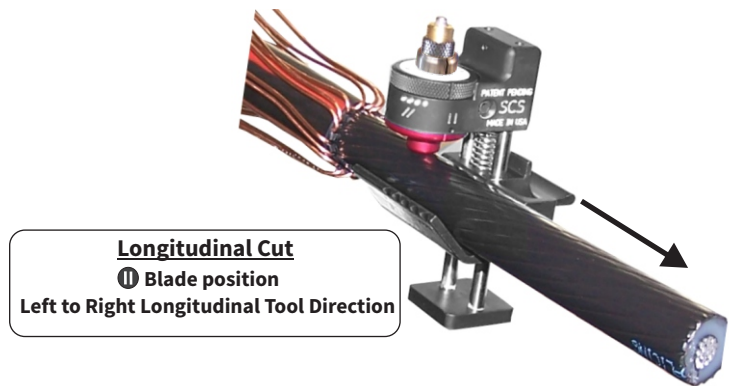

Fig.4
4. Longitudinal score cuts: (Fig.4) If preferred, the tool will allow for longitudinal score cuts as an option. After finishing the ring cut in step 2, proceed to the longitudinal cuts by rotating the blade positioning knob to the longitudinal tracking position. ① Carefully pull the tool down the full length of the cable scoring it to the cable end. Position the tool back on the cable at the ring cut and create the desired amount of score cuts down the length of the semi-con.